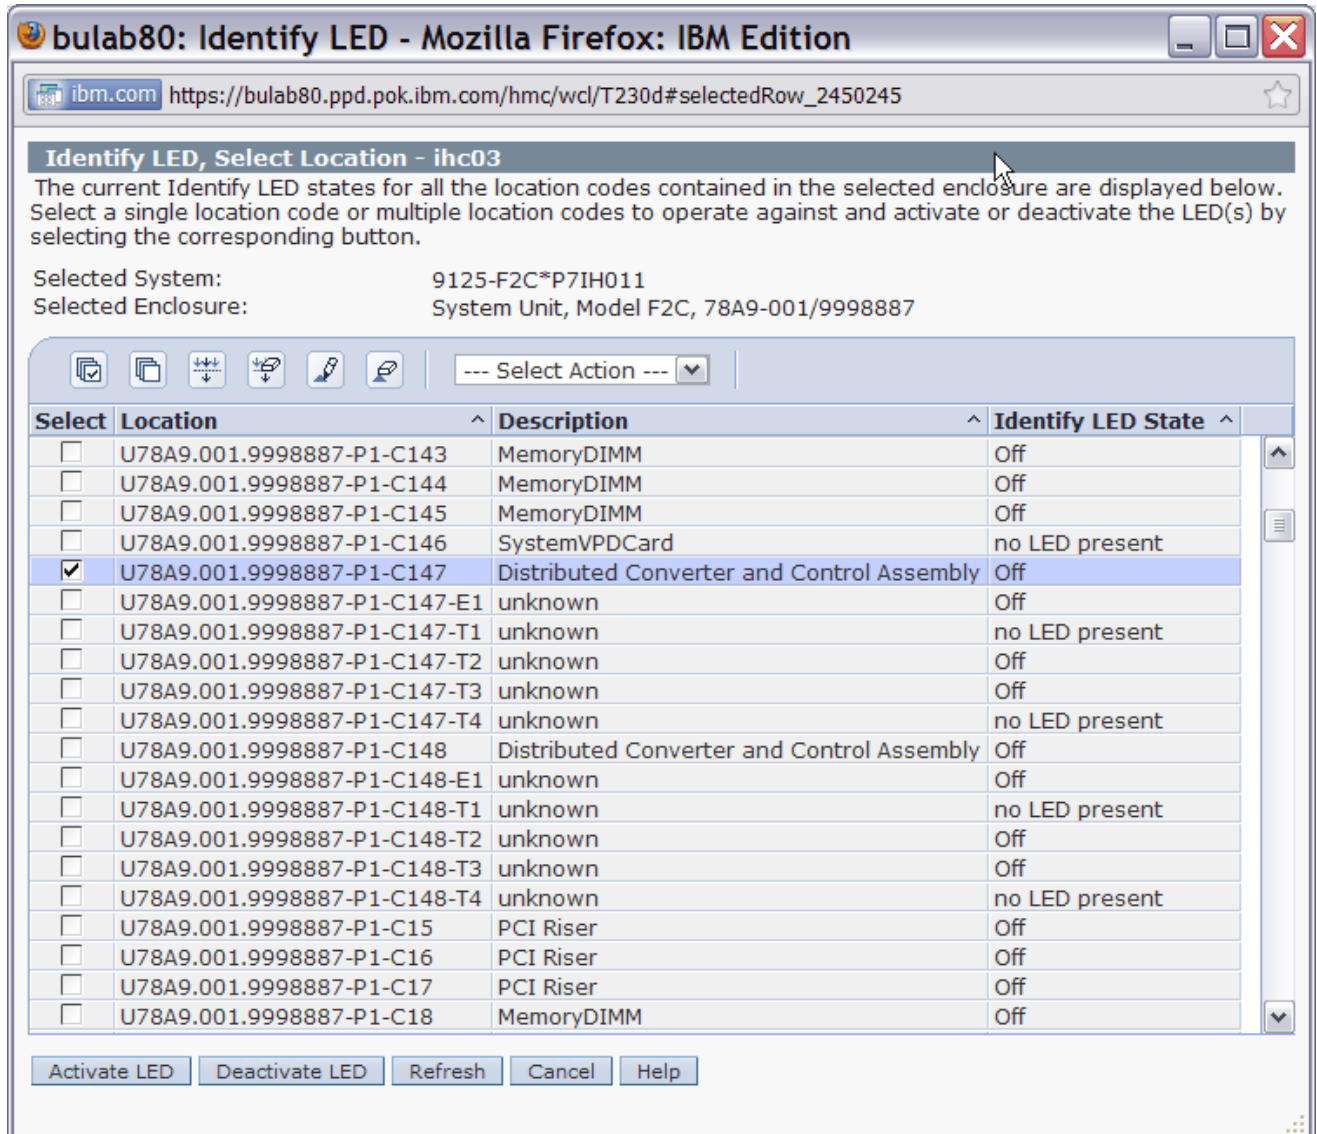

Figure 5 DCCA Identify LED Selection
STEP 6 To flash the CEC Drawer DCCA Identify LED and UEPO switch: In the window **Identify LED, Select Location**, place a checkmark in the Select column for the DCCA Location Code requiring communications cable service and then *click* the **Activate LED** button. Figure 5 shows the example of flashing the DCCA Identify LED in **U78A9.001.[Serial#]-P1-C147** : this is the top DCCA in the CEC Drawer. To select lower DCCA of the CEC Drawer you would select **U78A9.001.[Serial#]-P1-C148**. Skip to STEP 8.